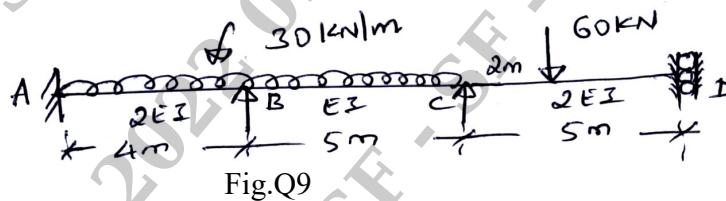

Fig.Q9
- 9 Analyze the beam shown in Fig.Q9 by direct stiffness method.